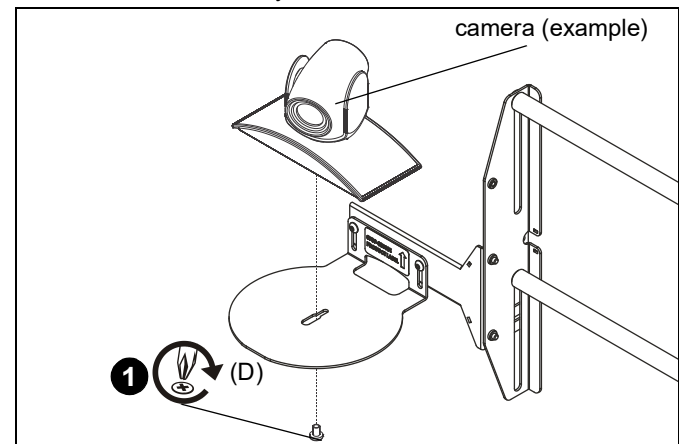

Figure 6
1. Install 1/4-20 x 1/4" Phillips pan machine screw (D) through holes on shelf and into hole on bottom of camera. (See Figure 6)